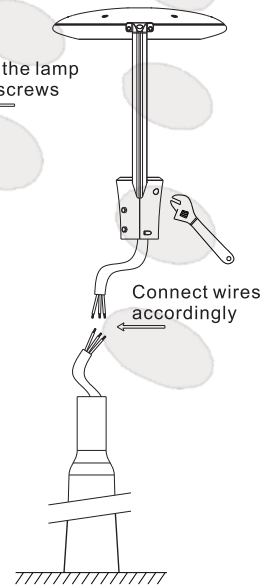

Figure 4
4. Connect the lamp to utility power according to the wiring standard, and make sure there is a good joint protective measures. (Figure 4)